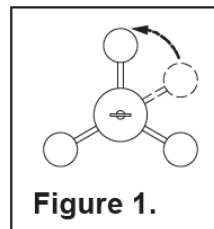
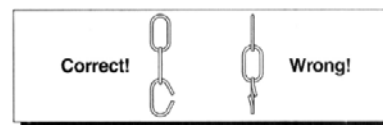

Figure 1.
Figure 2
1. If SUPPORT ARMS on FIXTURE ASSEMBLY are collapsed when shipped, Carefully separate ARMS by gently and evenly spreading them apart. See Figure 1.
3. Locate the CROSSBAR and secure to JUNCTION BOX with (2) JUNCTION BOX SCREWS. Thread LOCK NUT A and VIBRATION PROOF WASHER A on top end of the NIPPLE B. Thread the NIPPLE B into the center of the CROSSBAR. Locate LOCK NUT B and thread onto bottom end of NIPPLE B. Tighten LOCK NUT A against CROSSBAR with pliers until snug.
4. Locate the FIXTURE CHAIN and determine desired hanging height of fixture. Adjust chain by removing links if needed. Please note that depending on chain material thickness, you might be required to use chain pliers to spread links open (See Figure 2). Attach one end of chain to FIXTURE LOOP. Unravel FIXTURE WIRES and GROUND WIRE and pass through FIXTURE CHAIN alternating links at every 3 inches. Proceed to pull the fixture wires through the following mounting components: 1) CANOPY LOCK RING, 2) CEILING CANOPY, 3) CANOPY CHAIN LOOP, 4) VIBRATION PROOF WASHER B.
5. MAKE ELECTRICAL CONNECTIONS: (We recommend 2 people for the remainder of installation) Position the FIXTURE under the JUNCTION BOX and pass the FIXTURE WIRES and GROUND WIRE through the center of the NIPPLE B. Using WIRE NUTS, Connect the SUPPLY GROUND WIRE to the FIXTURE GROUND WIRE and secure it to the CROSSBAR with GREEN GROUND SCREW; Connect the SUPPLY WHITE WIRE(S) to the FIXTURE WHITE(or RIBBED) LEAD(S); Connect the SUPPLY BLACK (or RED) WIRE to the FIXTURE BLACK (or SMOOTH) LEAD(S). Wrap all connections with approved electrical tape.
7. Put INNER GLASS SHADE(S) into OUTER GLASS SHADE(S) carefully and pull over the SOCKET(S). Thread SOCKET RING(S) onto the end of the SOCKET(S). Hand tighten until snug.